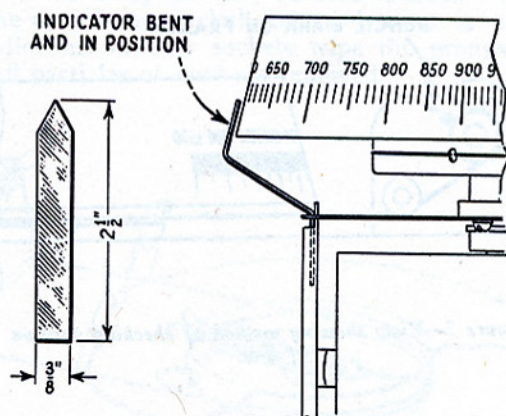

Figure 8—Dial indicator.
4. Take a small piece of metal about $2\frac{1}{2}$ " long by $\frac{3}{8}$ " wide and point one end of it. Bend as indicated in Figure 8 and then slip it under the gang condenser shield clamp so that it will act as an indicator for the dial. With the pencil mark and the pin coinciding as before removal of the chassis from the cabinet, set the indicator so that it will read 600 K.C. on the scale. From now on be careful not to disturb the indicator and recheck its position if in doubt as to its accuracy.